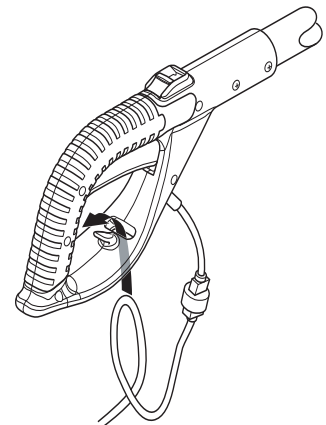

Figure 5 - Inserting Extension Cord Loop Through Bottom of Handle
3. Create a loop in the extension cord and insert the loop through the bottom of the handle. Pull the loop tight around the molded cord hook (see Figures 5 and 6).